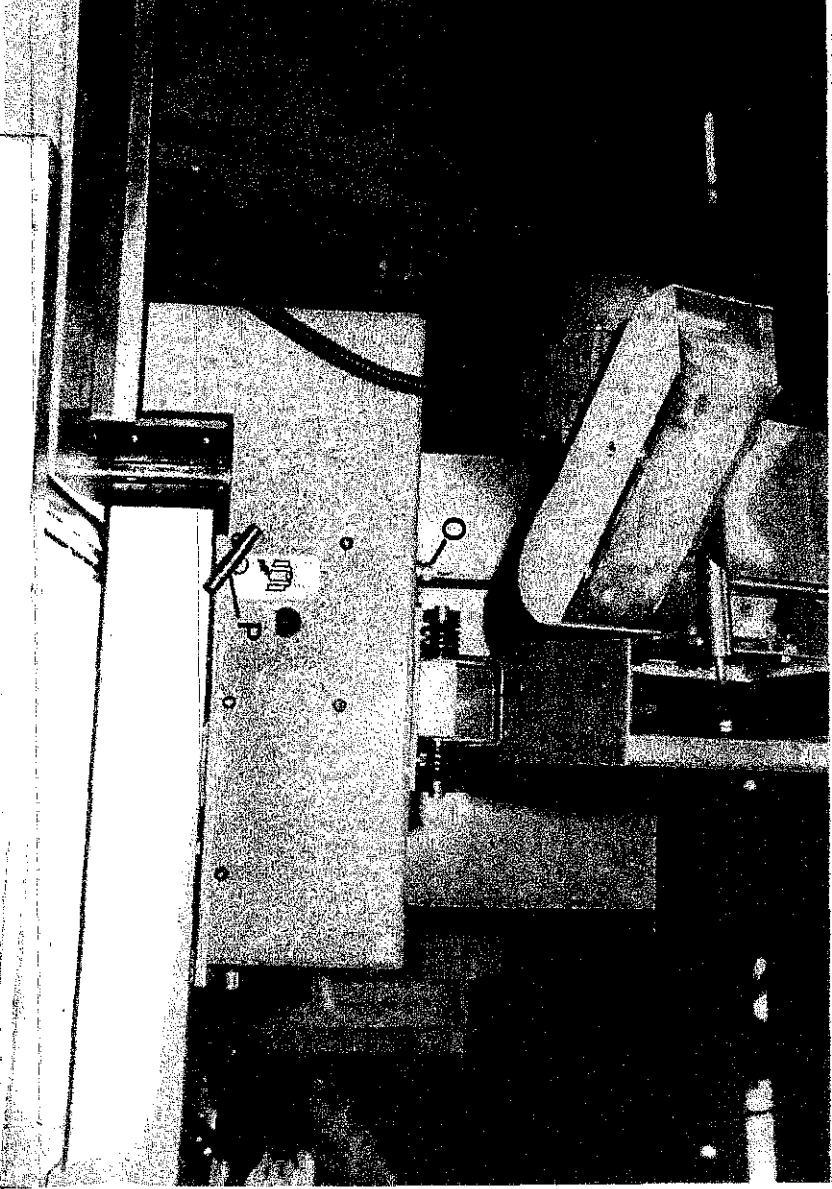
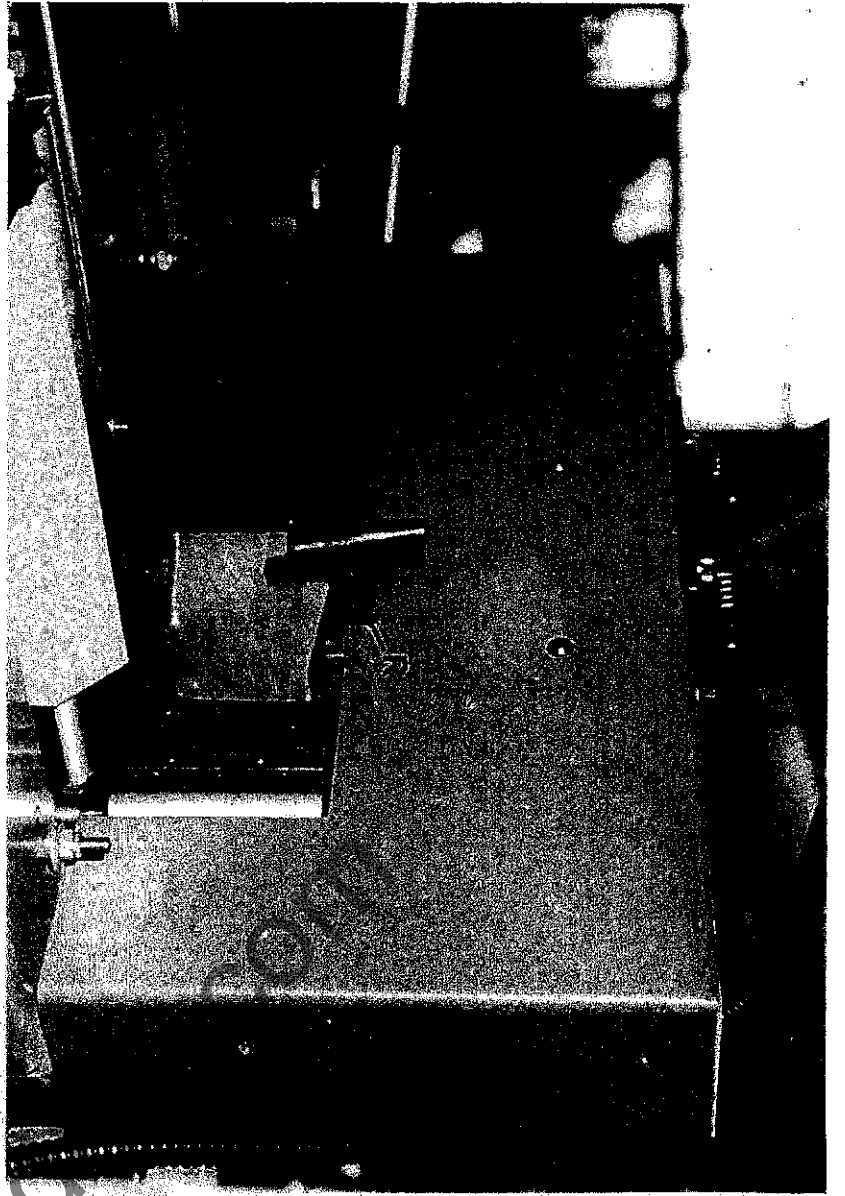

Fig 17
Fig 18
- 3) Loosen nut "O" FIG.17.
- 4) To move cutterblock towards fence, loosen grubscrew "P" FIG.17 with 'T' wrench provided and turn grubscrew "R" FIG.18 clockwise until cutting circle of cutterblock is level with fence.
- 6) Relock grubscrew "P" FIG.17.
- 7) Relock nut "O" FIG.17.